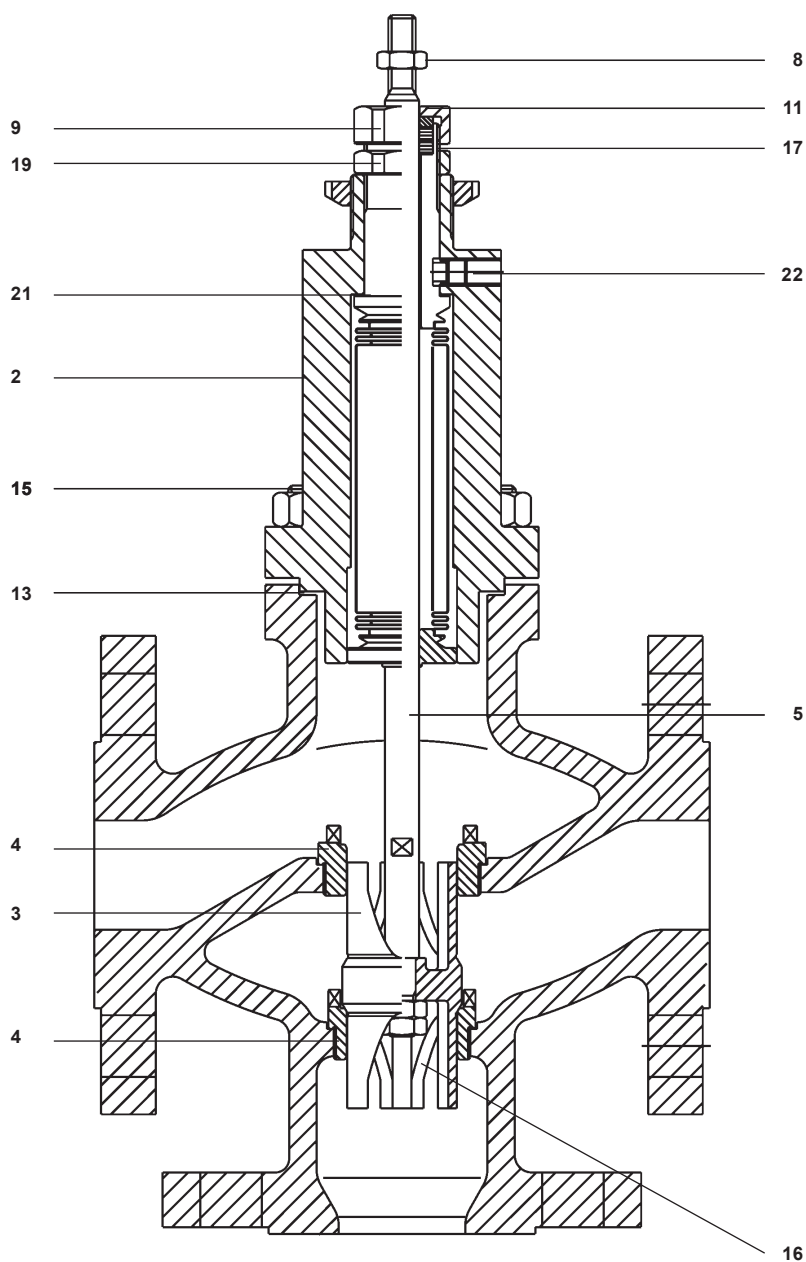

Fig. 11 Mixing valve
4.3.2 Procedure for renewing valve plug, seats and bellows assembly on mixing valves (Refer to Figure 11)